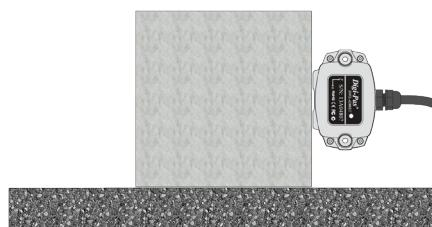
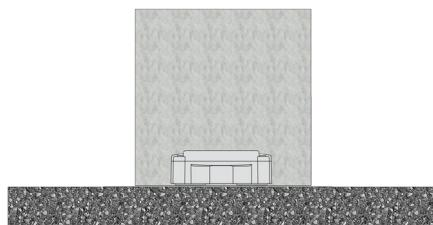

Figure 36. Compact Sensor Module Position of Calibration Step 3
Figure 41. Compact Sensor Module Position of Calibration Step 8
10. For **DWL4200XY** model, repeat step 3 to step 8. Please locate the sensor module in following positions (refer to Figure 36 to Figure 41) respectively.